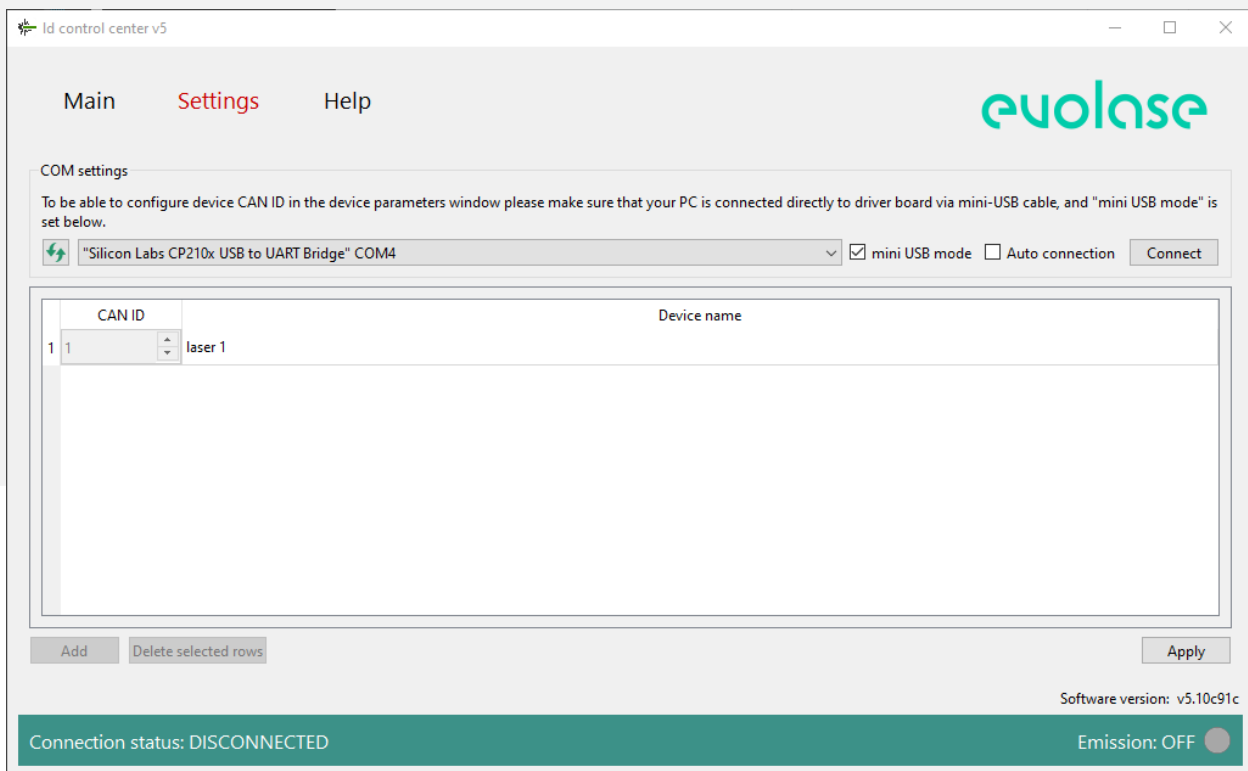

Figure 1: The system configuration menu
5. Click “Settings” to enter the program configuration menu (fig. 1).